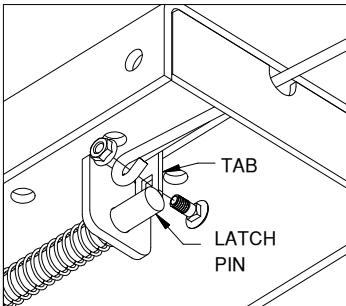

Figure E1.
2. **Install handle.** Install the latch pin release handle by inserting it , from the outside of the truck, through the slot in the end of the center section on the driver side of the truck. Align the handle eyelet with the square hole in the latch pin so the handle is in line with the latch as shown in Figure E1.